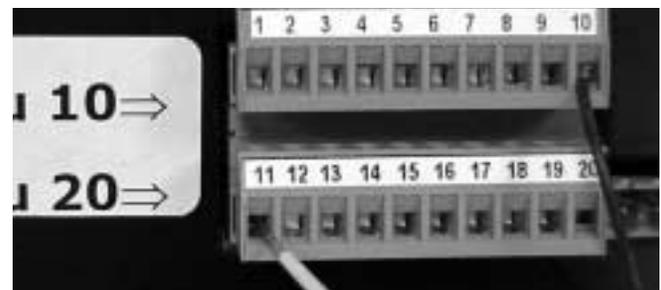

Figure 17. Contacts Connection
3. For extend, complete the circuit to terminal #11 (see Figure 17).